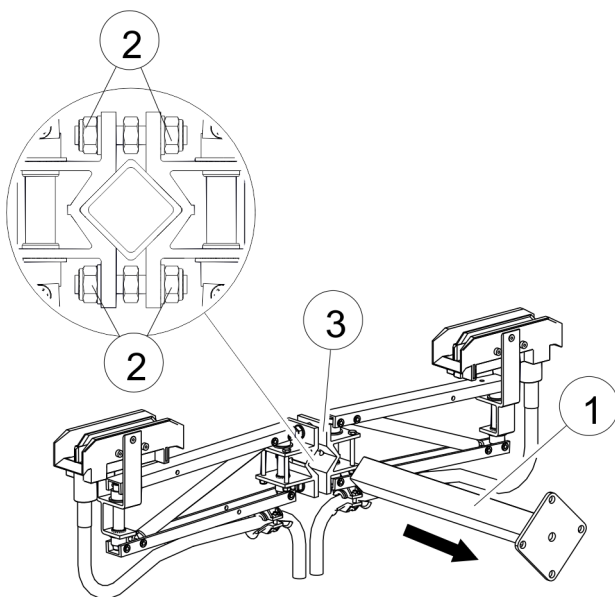

Fig. 117: Mount the towing arm
For current collector insertion from the side: The spacer ensures that the current collector remains in its neutral position. (see Pos. D in Fig. 117)
- When inserted from the side, the current collector spacer is on top or has not been installed. (see Pos. D in Fig. 117)